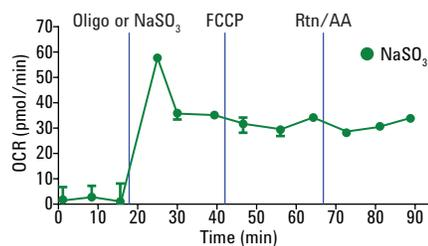

Figure 10. Typical profile of OCR before and after sodium sulfite injection.
- a. OCR after injection must be higher than before injection (Figure 10).